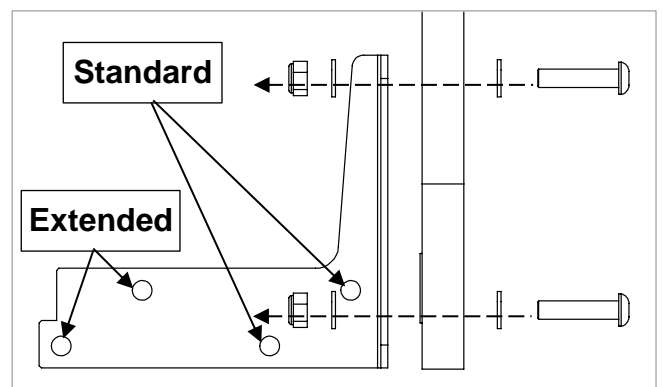

Figure 8.6
12. Fix the brackets to the footboard using the M8 x 35mm bolts, nuts, and washers provided as shown in Figure 8.6. Tighten using the 5mm Allen key and a 13mm spanner.
14. For the bed at the standard length for a 80in mattress, use the bolt holes marked 'Standard' in Figure 8.6. For the bed at the extended length for a 84in mattress, use the bolt holes marked 'Extended' in Figure 8.6.